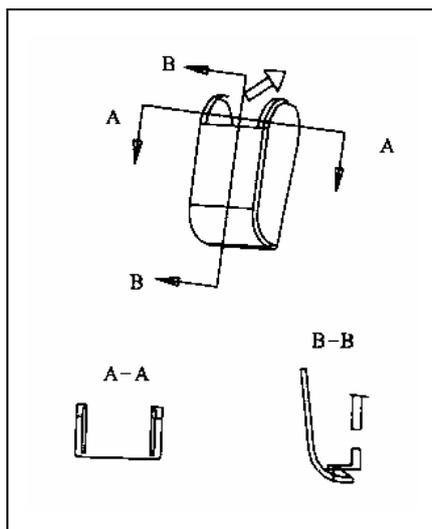

Fig. 19-4
(3) Installation of seat luster is shown in Fig.19-4: